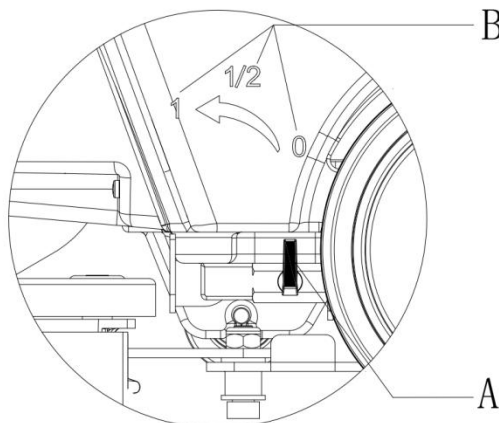

Figure 7
The power switch (45) must on off position "o" before adjusting valve knob (A, Figure 7).
Adjust the valve knob to regulate the volume of the water flow basing on actual need. B in Figure 7 shows the volume of the water flow.